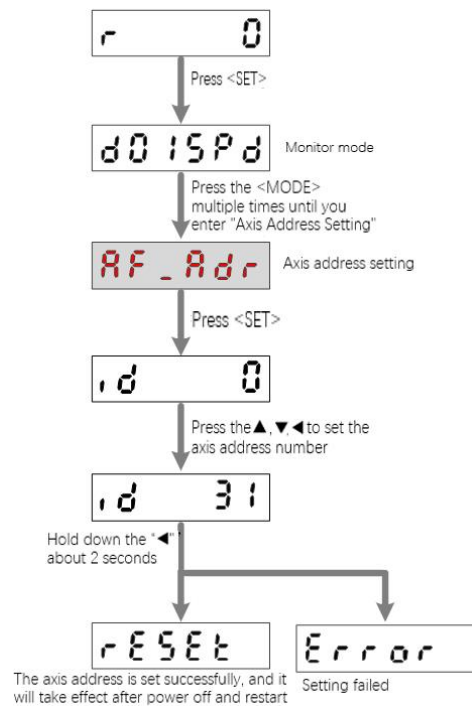

Figure 5-3 Set station address number
2. Set the station address number, see figure 5-3.